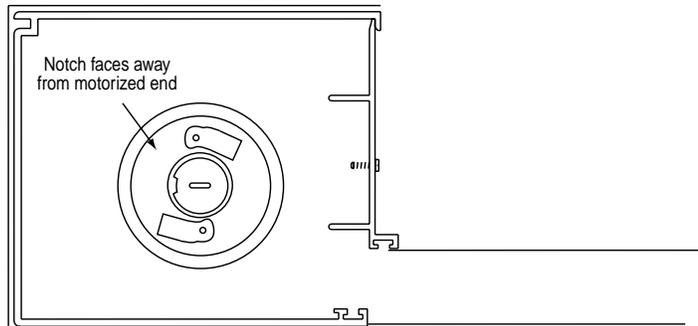

Figure 11
- ① Re-install motor/roller assembly by generally reversing the steps in the "Installation Preparation" section.
- ② Re-install the spring roller by generally reversing the steps in the "Installation Preparation" section. Note that the notch on the spring roller must be positioned to face out, toward the frame, not in toward the motor end headbox (see Fig. 11).